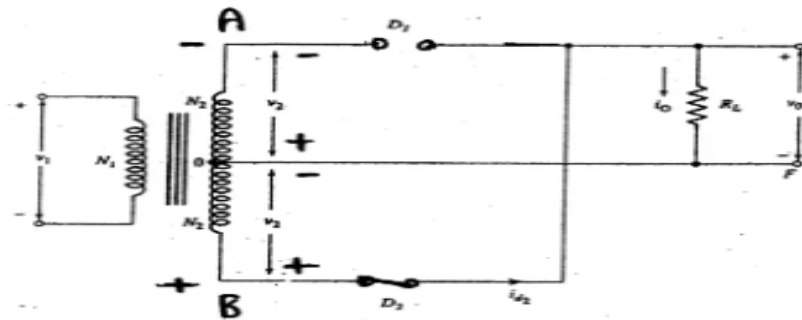

Fig 3.
During negative half cycle of the ac input voltage, end A becomes negative with respect to end B, the diode 'D' is reverse biased and acts as an open circuit, thus **NO current** flows in the circuit, Figure 3. The load voltage is given by $V_0 = 0 \times R_L$.
- ❖ During -ve half cycle of the ac input voltage, end A becomes -ve with respect to end B, the diode ' D_2 ' is forward biased and conducts while the diode D_1 is reverse biased and acts as open circuit and will not conduct as shown in fig 3.